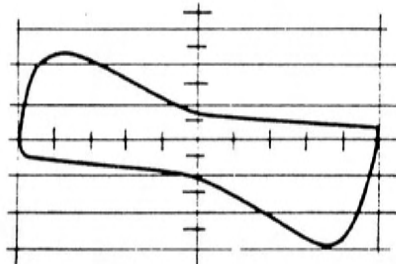
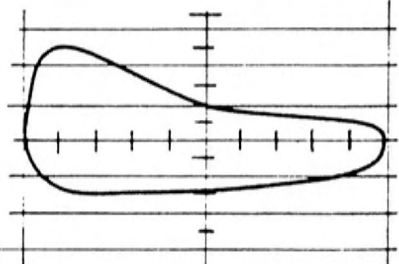

FIG. 2
FIG. 3
- C. With a 0.5VRMS 100Hz sine wave input signal the "Bowtie" trace in Figure 2 should appear. Figure 3 shows typical abnormal trace. **With normal trace do not operate more than one minute. With abnormal trace discontinue operation at once.**